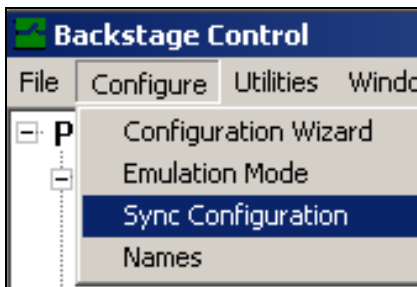

FIGURE 62: Accessing The Sync Configuration Screen
- 1) On the menu bar, click on Configure and then, click on Sync Configuration (see Figure 62).